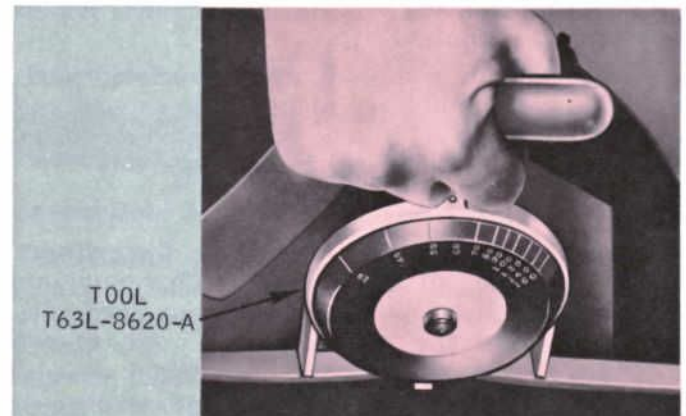

Fig. 14 — Drive Belt Tension Check
1. Install the belt tension gauge (T63L-8620-A) on the drive belt and check the tension (Fig. 14) following the instructions of the tool manufacturer. Compare the belt tension to the specified belt tension and adjust as necessary.
2. Install a new drive belt. With a suitable bar, *pry against the rear cover of the air pump* to obtain the specified belt tension, and tighten the adjusting arm bolt. *Do not pry against the pump housing.* Check and adjust the belt tension, as necessary, to be sure it is within specifications. *Always use a belt tension gauge (Tool T63L-8620-A) to check belt tension (Fig. 14).*